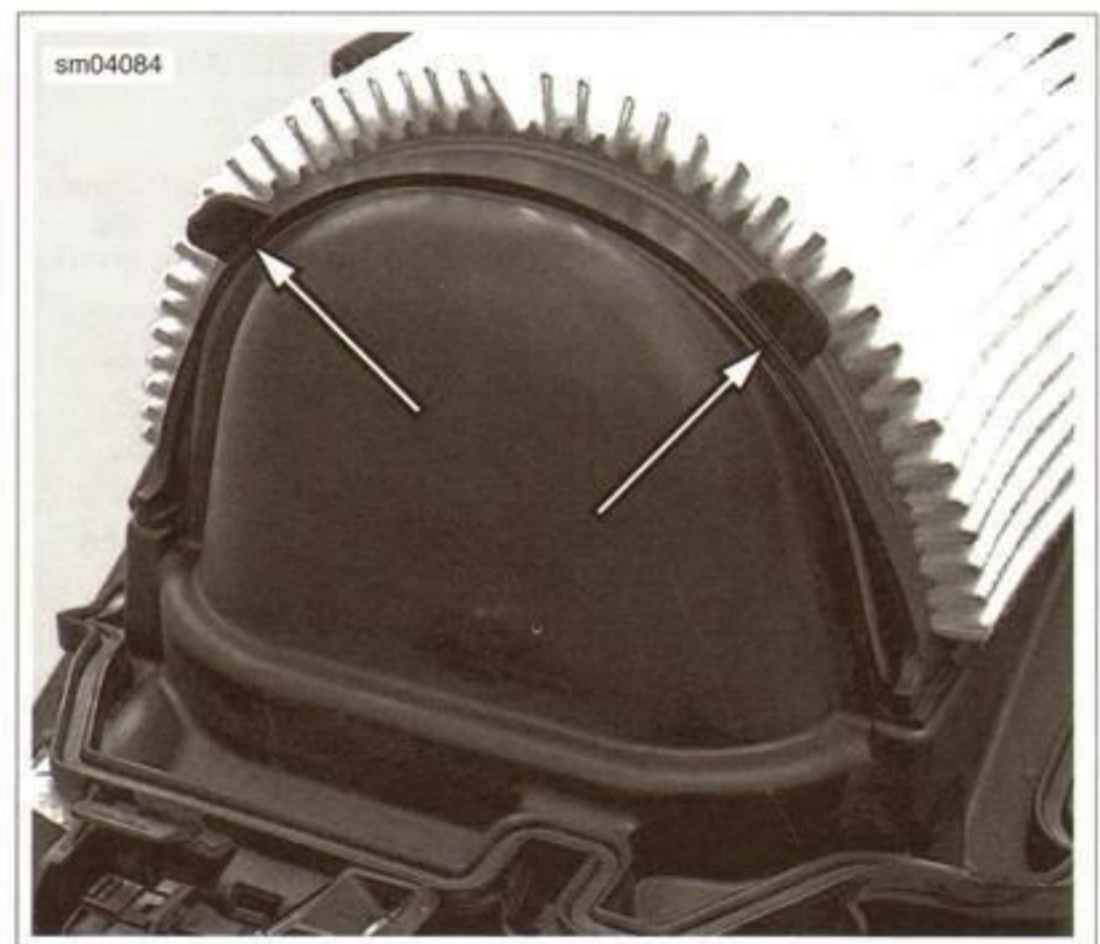

Figure 1-8. Air Filter Retainer
4. See Figure 1-8. Pull the tabs to stretch the air filter retainer off of the rubber seal strip of the element.